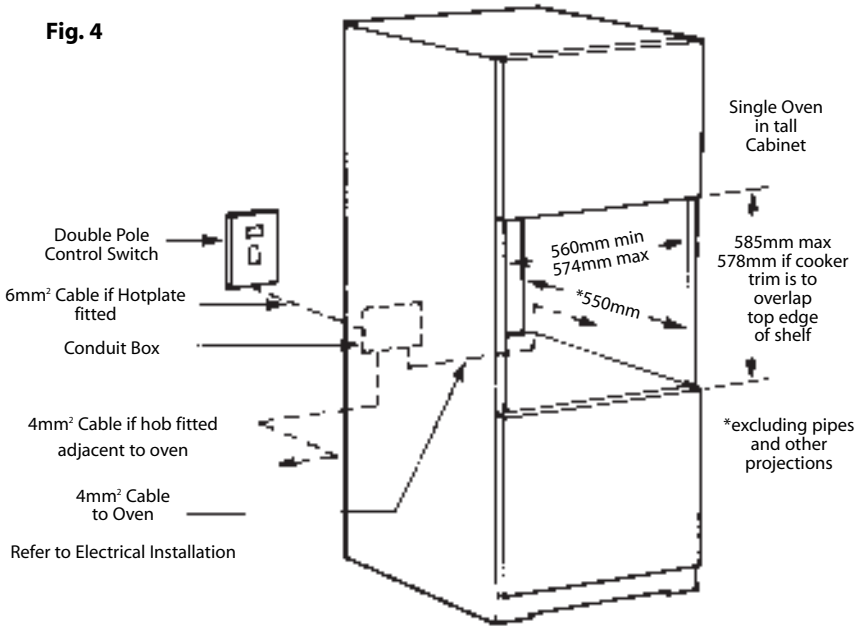

**Fig. 3**
- (a) The oven unit housing cabinet dimensions must comply with Fig. 3 and Fig. 4.